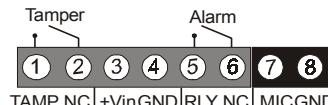

Figure 1: Terminal Block
- Connect the wires to the terminal block as shown in Figure 1.